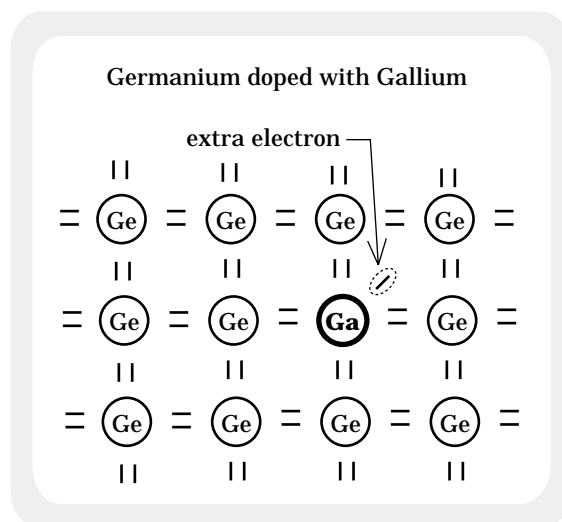

FIGURE 21.2a
a.) Each Germanium atom around the Gallium shares a single electron with its oddball neighbor (the Ga), leaving the Gallium with one electron more than would have been the case if a Germanium had occupied the spot (see Figure 21.2a).